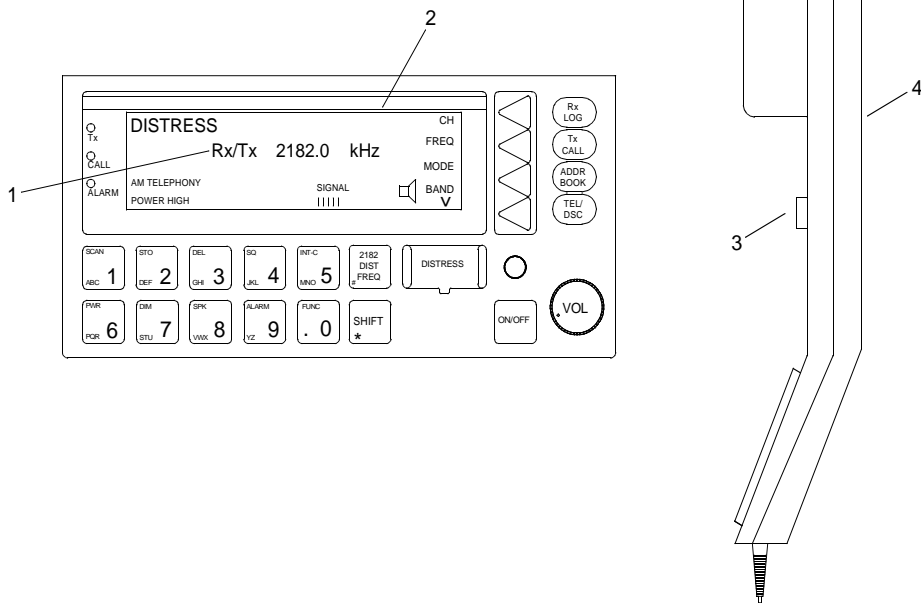

Figure 2. Rx/Tx Message
3. Verify the Rx/Tx message (figure 2, item 1) appears in the LCD display (figure 2, item 2).
4. Press the PTT button (figure 2, item 3) on the MF/HF control unit handset (figure 2, item 4) to acknowledge the distress call.
5. Release the PTT button (figure 2, item 3) on the MF/HF control unit handset (figure 2, item 4) to listen for a reply.